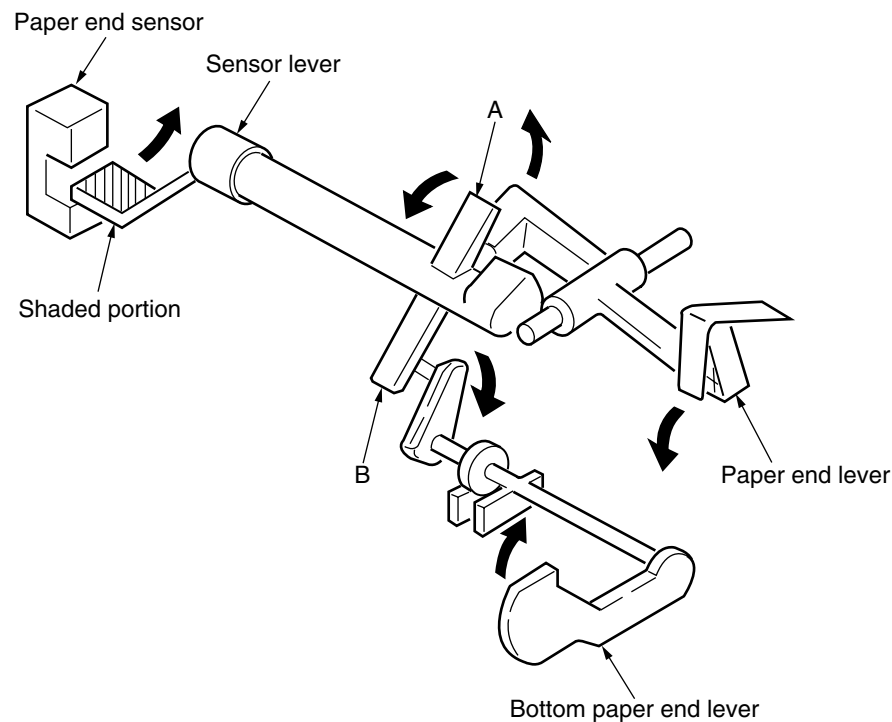

Figure 2-14
2.2.6 Paper Detection Mechanism (See Figure 2-14.)